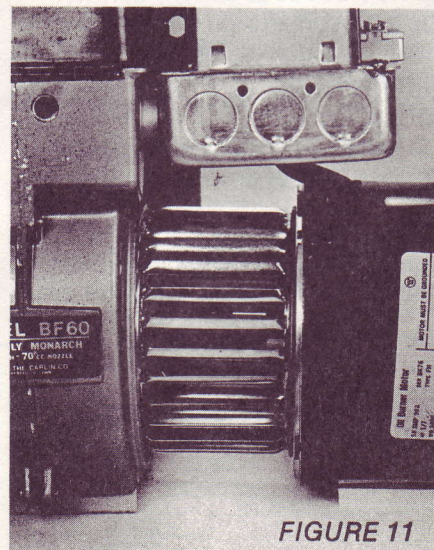

FIGURE 11
2. Remove the two motor flange bolts from the burner housing. Pull the motor and blower wheel from the burner housing as shown in Figure 11.